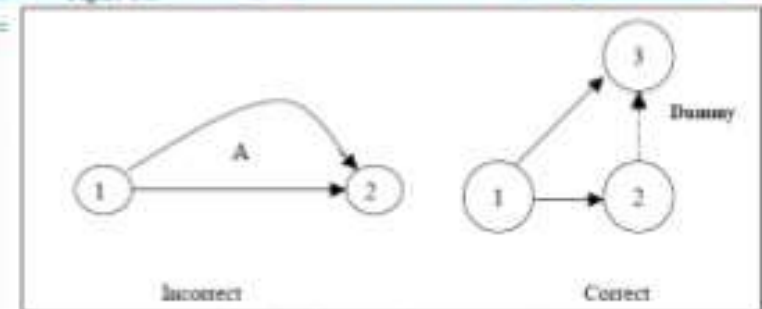

Figure 8.6: Correct and Incorrect Activities
a. Two activities starting from a tail event must not have a same end event. To ensure this, it is absolutely necessary to introduce a dummy activity, as shown in Figure 8.6.